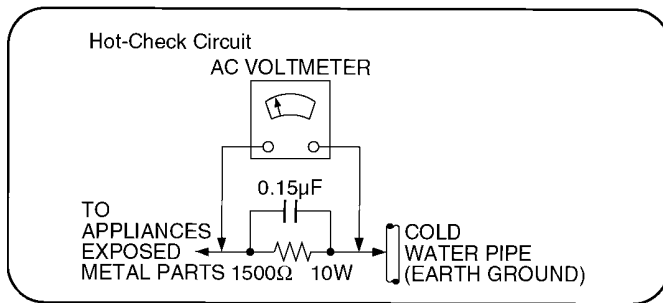

Figure 1
1.1.2. Leakage current hot check (See Figure 1 .)
2. Connect a 1.5kΩ, 10 watts resistor, in parallel with a 0.15μF capacitors, between each exposed metallic part on the set and a good earth ground such as a water pipe, as shown in Figure 1.